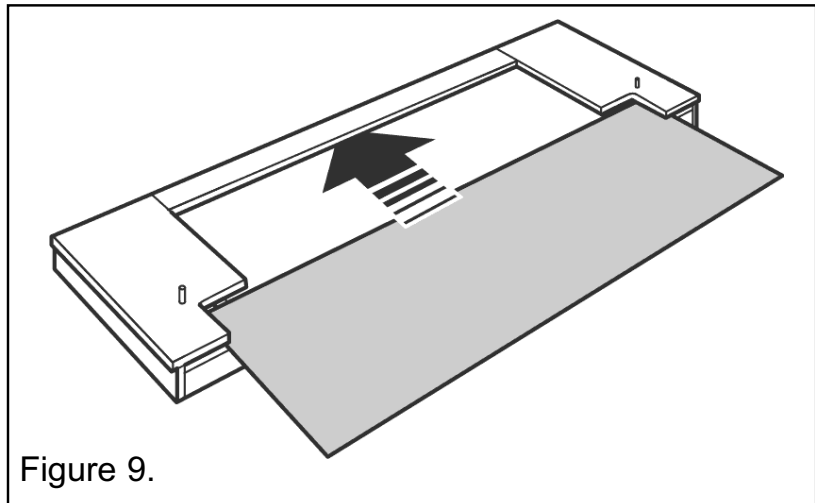

Figure 9.
- Decide which side of the Hearth Laminate (E) will be used. Slide the laminate, with the chosen side on top, into the slot at the rear of the hearth. Push it in so that the laminate goes into the slot at the front of the Hearth (See figure 9).